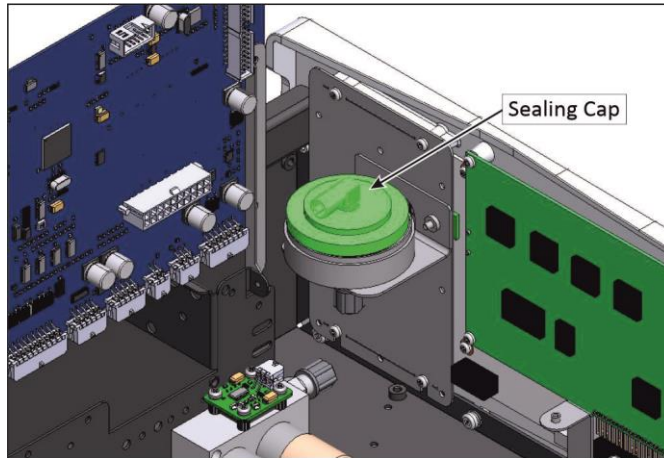

Figure 119 – Remove Filter Sealing Cap
5. Refer to Figure 119. Remove the sample filter holder sealing cap.